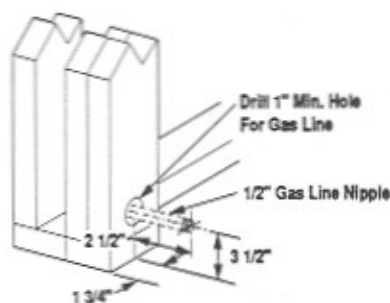

Figure 5
Step 2. Route a 1/2" NPT black iron gas line behind the front face of rough framing (Figure 5). Framing members at this point must be drilled to accept the gas line.
Step 2. Route a 1/2" NPT black iron gas line behind the front face of rough framing (Figure 5). The gas line may only enter the appliance from the left side. Framing members at this point must be drilled to accept the gas line.